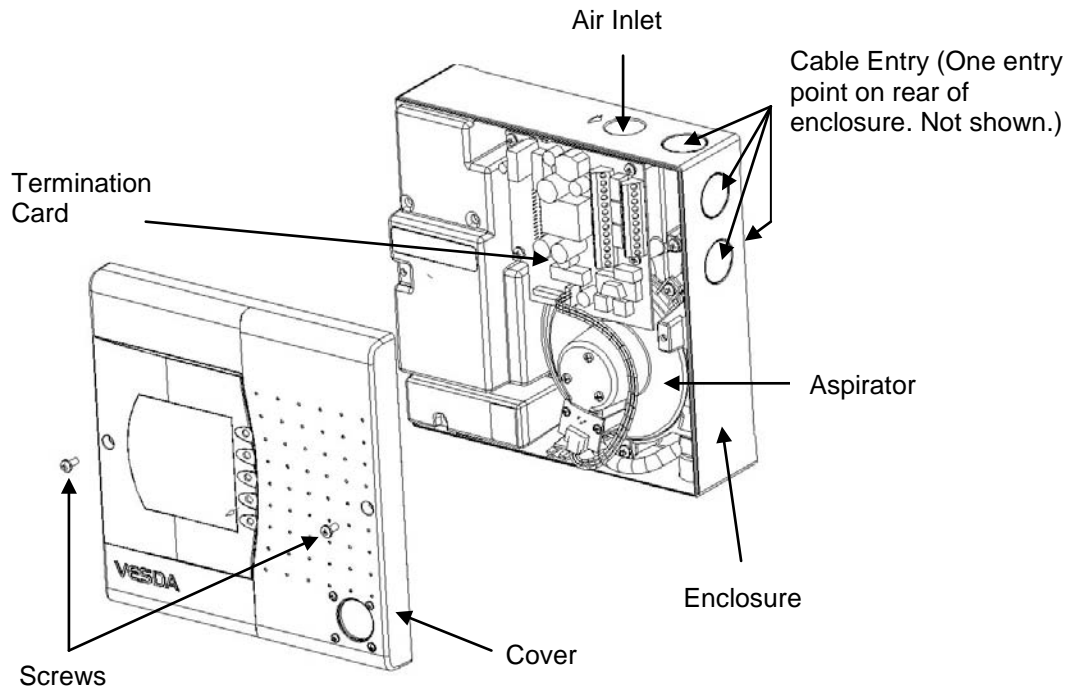

Figure 4 VLC with Front Cover removed. (Normal Orientation).
- (a) Determine the cable entry holes to be used. Refer to Figure 4.